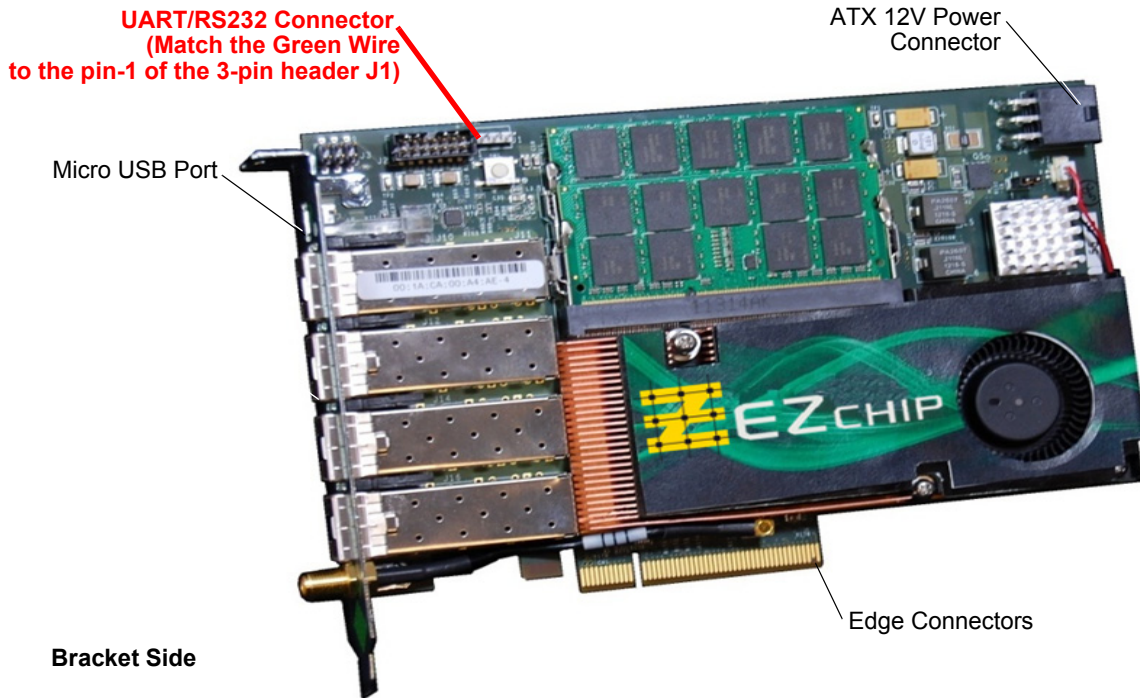

Figure 4-3: TILEncore-Gx36 with SFP/SFP+ Interfaces
- +12V from the host PC power supply. The TILEncore-Gx36 gets the +12V exclusively from the PCI Express 150W-ATX (6 pin) Power Connector located on the top edge of the card (see Figure 4-3).
- If you are powering the card from the PCIe edge connectors, firmly insert the TILEncore-Gx36 into the PCIe x8/x16 slot (Figure 4-3). Position-9 of SW2 should be OFF.
- If you are powering the card from the onboard 12V ATX power connector, connect the 6-pin ATX 12V cable from the host power supply to the onboard ATX 12V power connector (Figure 4-3). Position-9 of SW2 should be ON.
5. Optional: Connect one end of the RS232 cable to the UART/RS232 connector on the card with the green wire matching to pin-1 of the 3-pin header J1, as indicated in Figure 4-3.¹